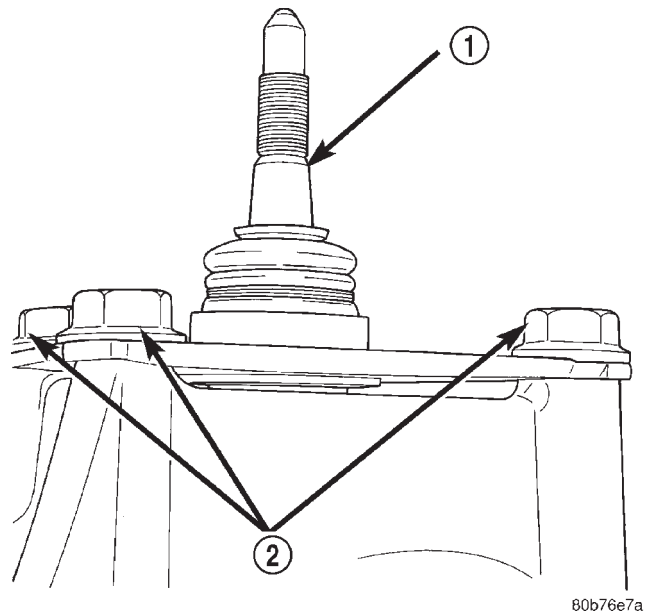

Fig. 13 Ball Joint Mounting Bolts
- (5) Remove the ball joint mounting bolts (Fig. 13) from the differential housing.
- (6) Remove the ball joint from the differential housing.